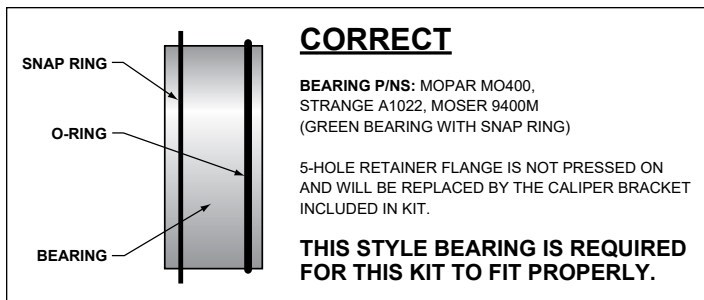
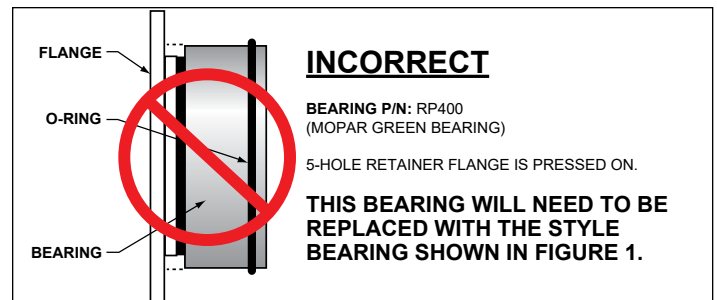

Figure 1. Snap Ring Bearing Configuration
Figure 2. Press Fit Bearing Configuration
- It is important to verify which bearing you have. There are two types of “Green Bearings” being supplied by axle manufacturers. Your setup should look like Figure 1 (below left), not the Figure 2 (below right) configuration, otherwise this kit will not fit.
- Determine that the appropriate snap ring style Green bearing has been installed on the axle, as shown in Figure 1.